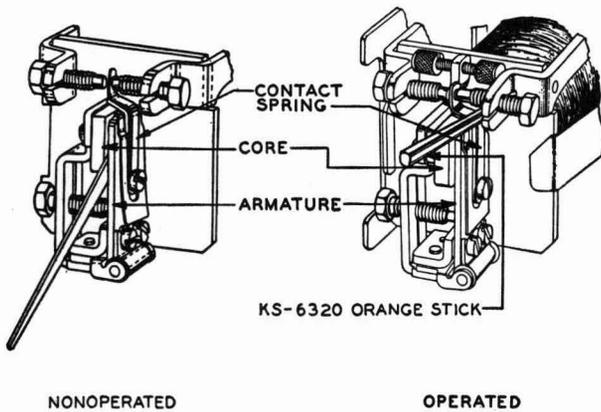

Fig. 3—Blocking L-, N-, and S-type Relays
3.03 **L-, N-, and S-type Relays:** Fig. 3—Block relays nonoperated by inserting the flat end of a toothpick between the core and the armature. Insert the toothpick from below the core. Block relays operated by using a part of a KS-6320 orange stick prepared as follows. Cut approximately 1-5/8 inches from one end of the orange stick and then cut approximately 5/8 inch from the smaller end of this cutoff portion. Use the remaining 1-inch length for blocking the relay operated by inserting it between the armature and contact screw bracket, as shown in Fig. 3.